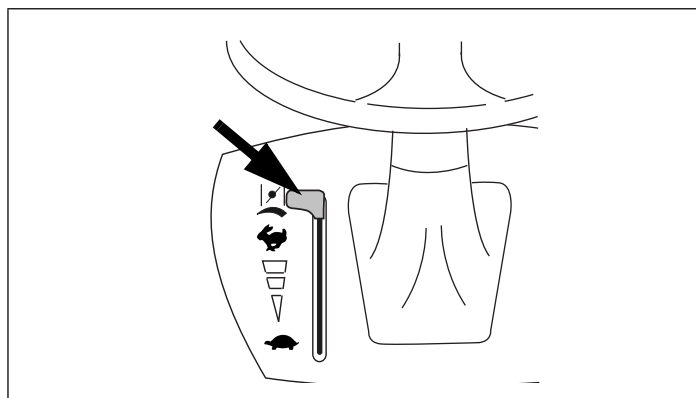

Figure 8. Combined Speed and Choke Control
2. Move combined control to "CHOKE" or "START" position (see equipment manufacturer's instructions). See Figures 8 and 9.
If restarting a warm engine after a short shutdown, move combined control to "FAST" instead of "CHOKE" or "START" position. See Figures 8 and 9.